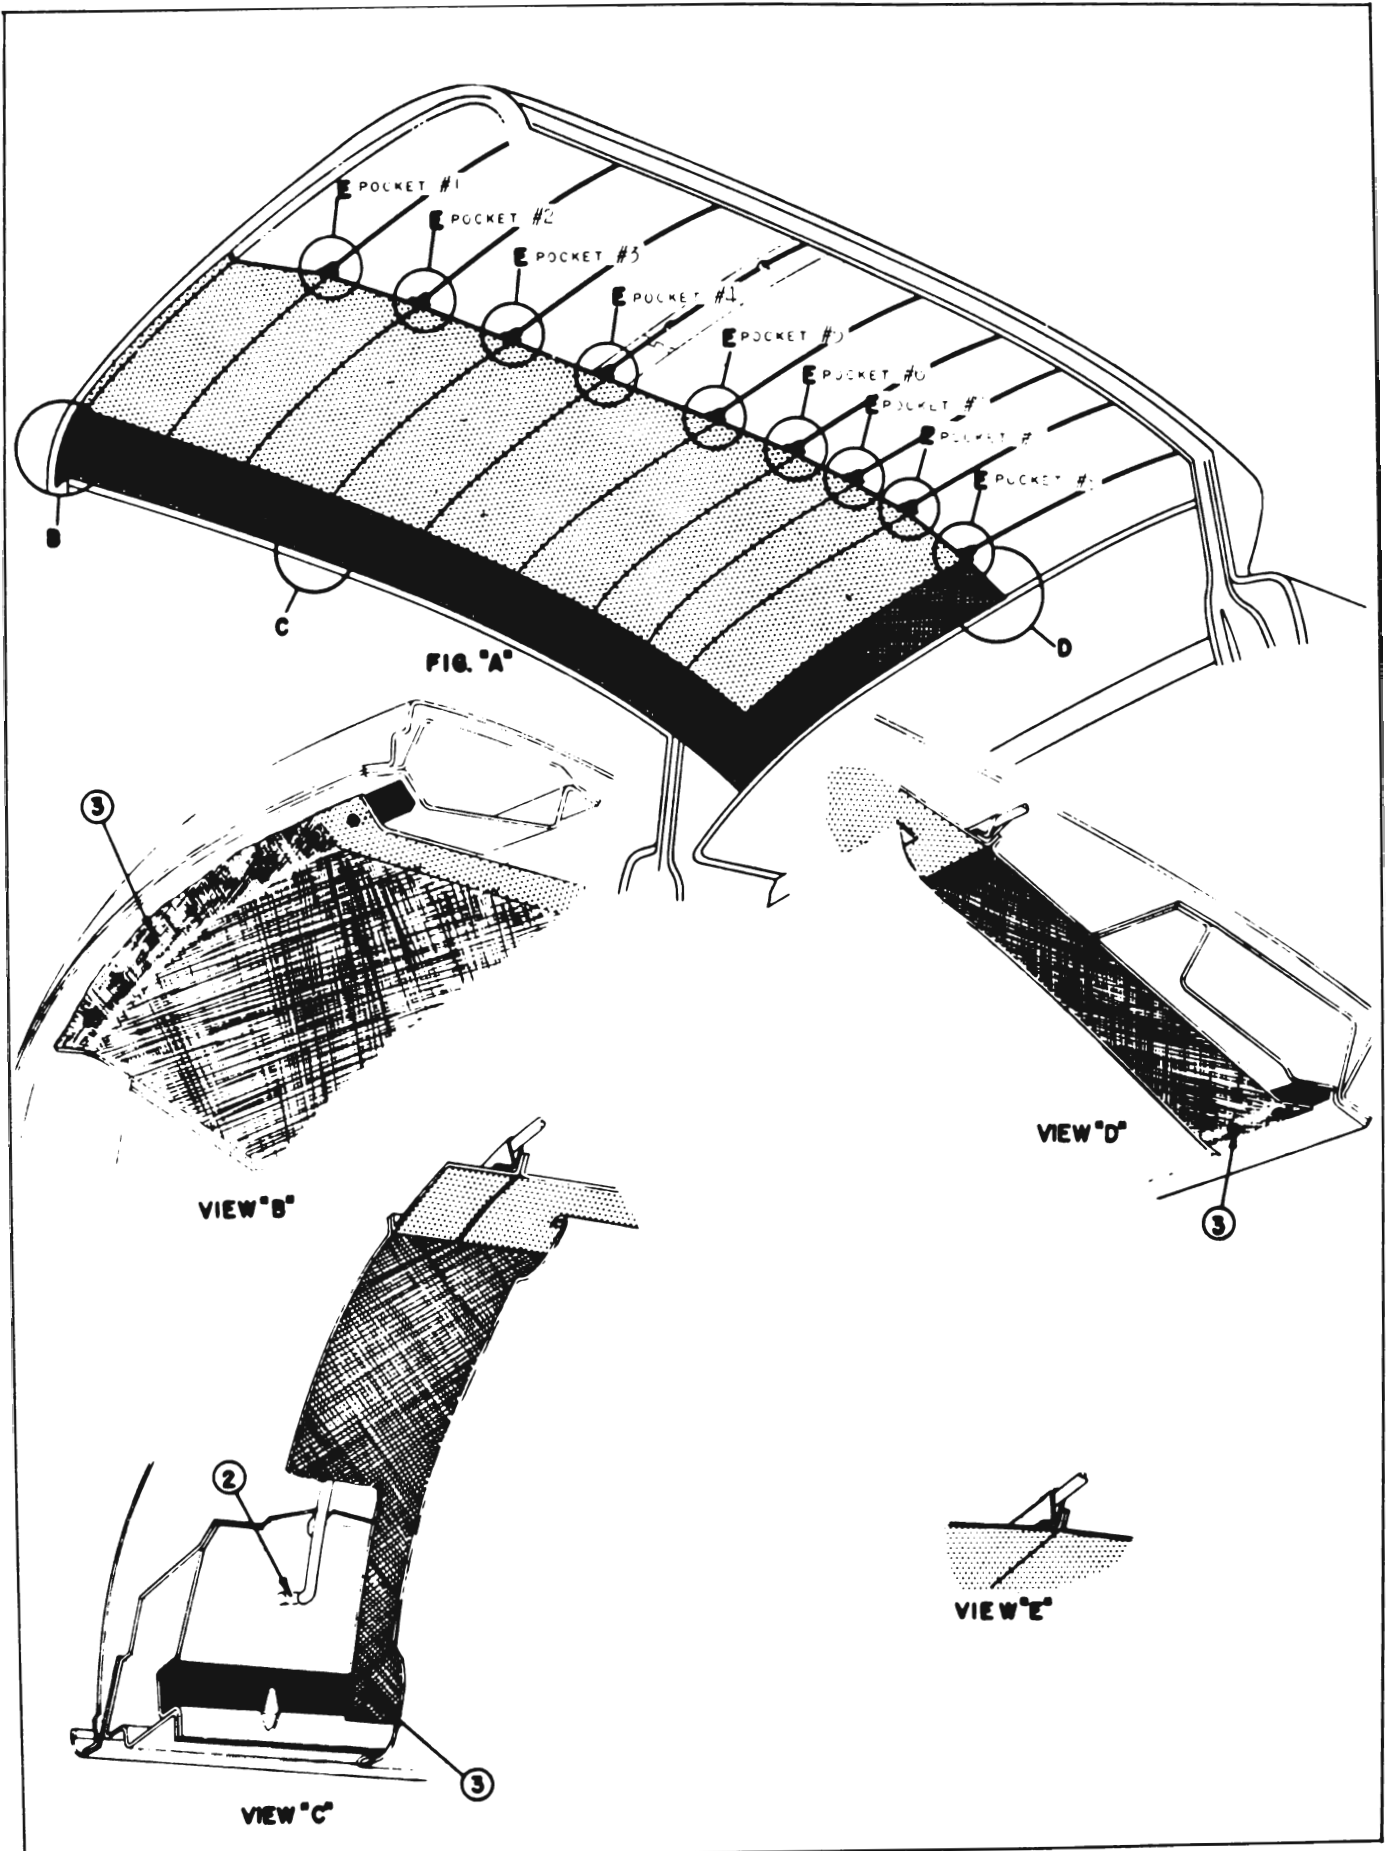

Figure 13-76—Headling Attachment (Without Roof Bows)
on center roof bow and detach listing wire from tabs. See figure 13-76.
2. Lift entire headlining assembly into body. Then starting at rear and working forward install listing wires No. 9, No. 8, No. 7, No. 6 and No. 5 to side roof rails. (See figure 13-76.) To install listing wire tilt wire rearward, insert into roof rail holes as shown as "2" in View "C"; then swing wire to upright position and into locking notch in side roof rail. See figure 13-76.
3. Install listing wire No. 4 in same manner as outlined in step No. 2. Align headlining; then secure listing wire to roof bow by bending tabs over listing wire. See figure 13-76. Install remaining listing wires.
4. Center and align headlining in relation to windshield and back window openings, coat hook and sunshade locations. Then apply trim cement to headlining tacking surfaces at windshield and back window and stretch and stay tack headlining along side roof rails, and windshield and back window openings as shown at "3" in Views "C", "B" and "D". See figure 13-76.